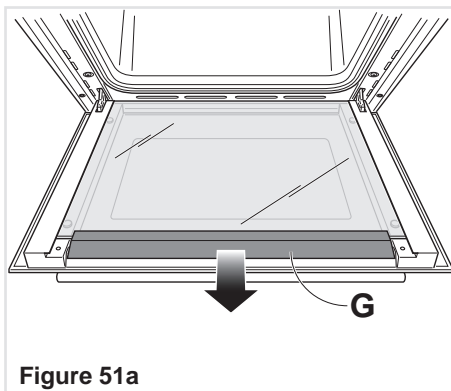

Figure 51a
- Gently remove the air deflector "G" at the top of the oven door (fig. 51a).